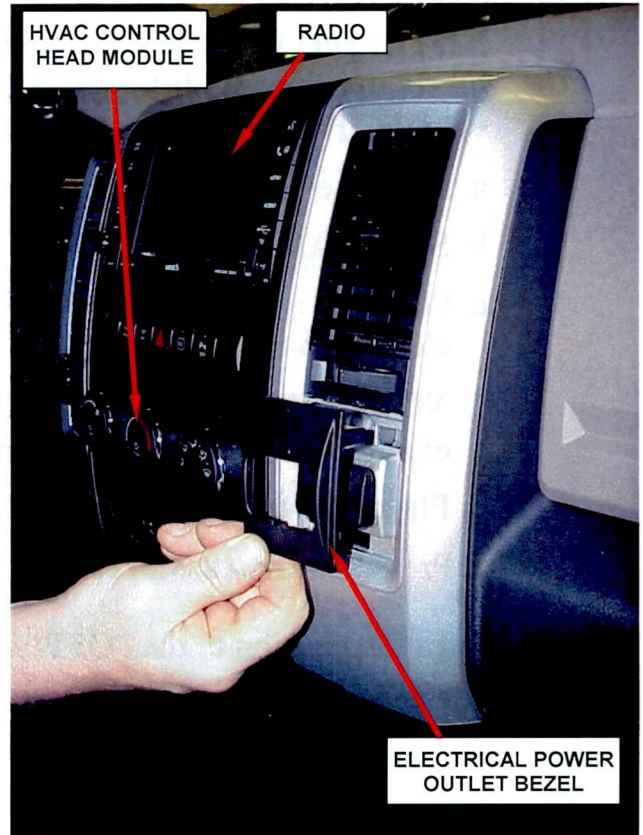

Figure 1 – Power Outlet Bezel
2. If equipped, remove the Alternating Current (A/C) electrical power outlet bezel (Figure 1).
4. Remove the retaining screw located behind the A/C electrical power outlet bezel (Figure 1).
15. Install the retaining screw located behind the A/C power outlet (Figure 1).
17. Install the A/C electrical power outlet bezel (Figure 1).